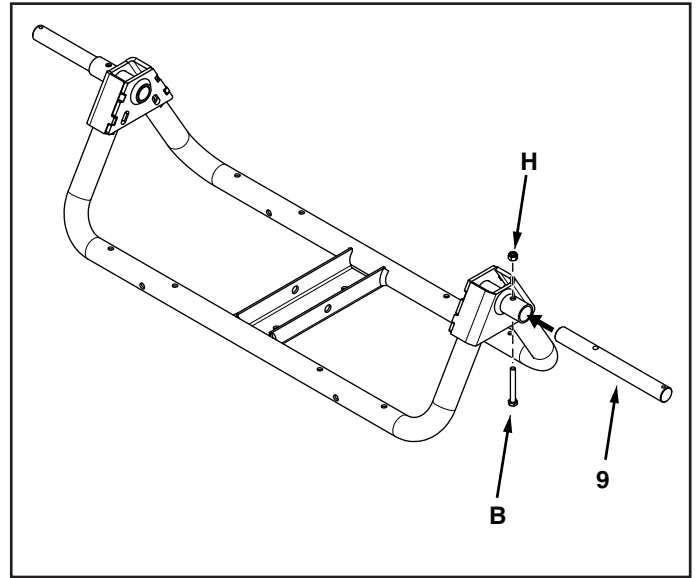

FIGURE 6
STEP 6: (SEE FIGURE 6)
1. Attach the axle (9) to the wheel support using a 5/16" x 1-3/4" hex bolt (B) and a 5/16" nylock nut (H). Repeat this step to attach the other axle to the opposite side.